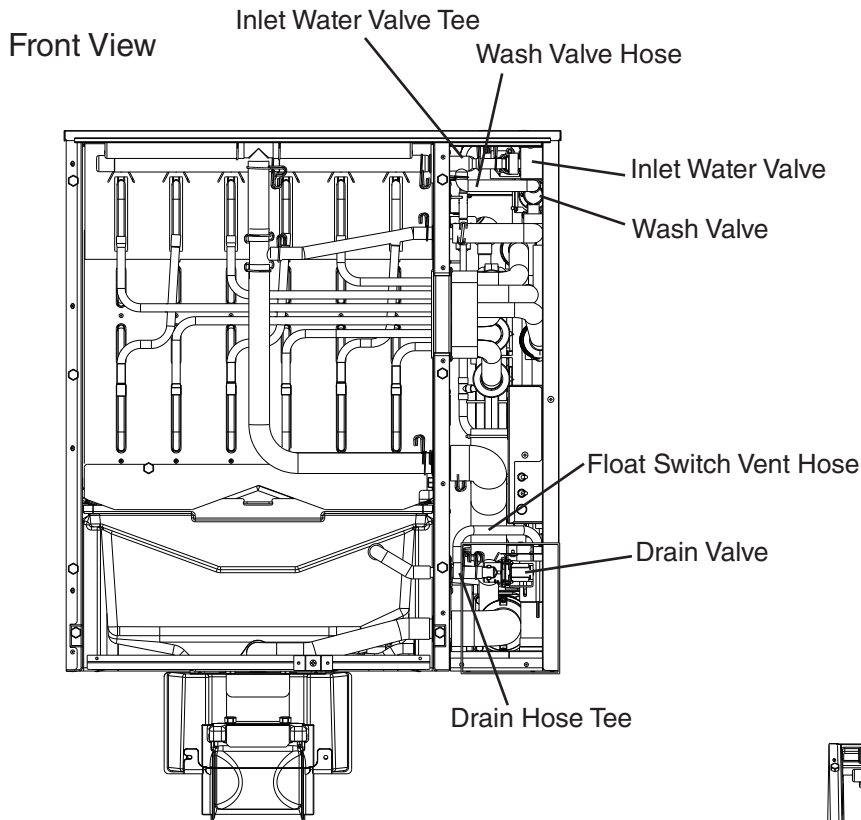

Fig. 5
- 8) Disconnect the wash valve hose from the inlet water valve tee, then unplug the water pump connector at the water pump. See Fig. 5.